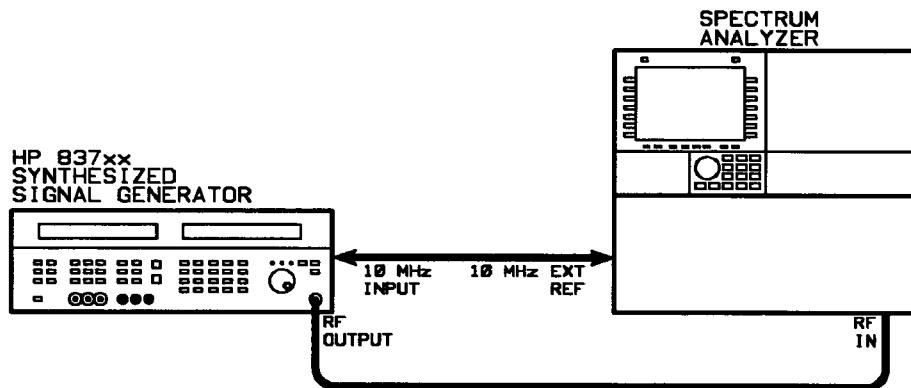

Figure 3-12. Non-Harmonic Spurious Level >30 kHz Test Setup
1. Connect the equipment as shown in Figure 3-12.